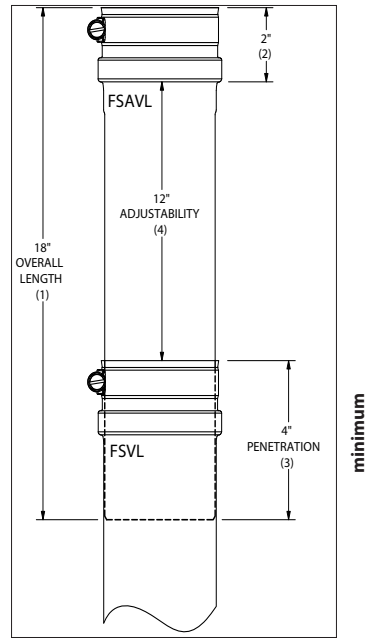

Figure 1 (single-wall)
Use the FSAVL vertically for easy adjustment of the required minimum 1/4" per foot pitch. Technical details about the stand alone FSAVL (**see Figure 1 & 1a**): The overall length of all FSAVL Adjustable Vent Length is 18" (1). The female end (2) measures 2", leaving 12" to telescope into a standard vent length.